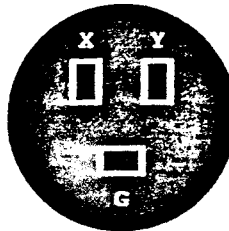

Figure 1.8 - Series 400S, PDU Plug Pinout
- 4. Turn on circuit-breaker CB2. Using a voltmeter, check the AC power for the proper input voltage. The voltage should be between a minimum value of 208 $\pm 5\%$ VAC to a maximum value of 240 $\pm 5\%$. Take this measurement at the power jack labeled "Service Power/Monitor" located near the lower, right-hand edge of the PDU. (Refer to Figure 1.8 for pin assignment).